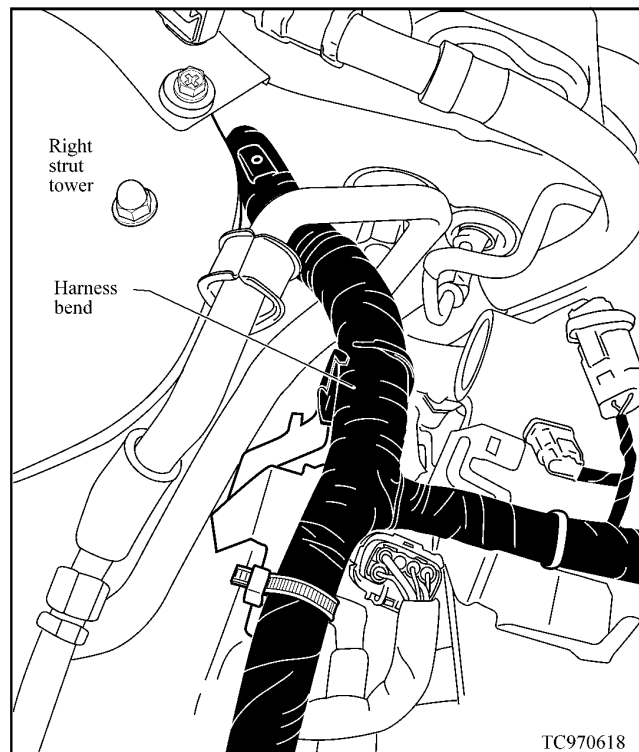

Figure 1
The cause may be wire breakage in the engine control harness where it bends over the right rear of the engine next to the right strut tower (see Figure 1). See the symptom charts beginning on page 5 for possible diagnostic trouble codes (DTCs) or specific symptoms that can cause one or more of these incidents.
4. Check for intermittent open or short circuits by aggressively wiggling the EGI harness side to side and up and down at the specified harness bend (see Figure 1) while watching the results on CONSULT Data Monitor. If the applicable monitored value changes or a DTC sets when you shake the harness then wire damage has been confirmed (see NOTE 1 below).